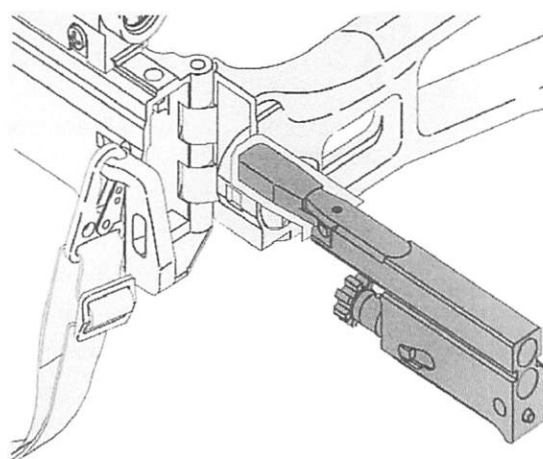

Fig. 23 Remove bolt assembly
- ⇒ Push out bolt to the rear, using the cocking lever (Fig. 23).